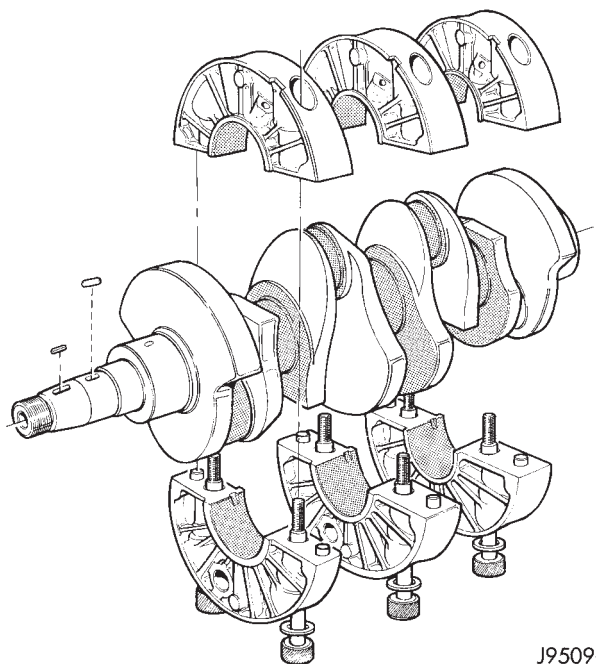

Fig. 57 Crankshaft and Carrier Bearing Assembly
(22) Separate the two halves of each carrier, remove from the crankshaft and temporarily re-assemble the carriers (Fig. 57). Withdraw the crankshaft through the rear of the crankcase.
(5) Thoroughly clean crankcase and oil passages, and blow dry with compressed air.
(6) Install new main bearing shells in each of the carrier halves. Assemble the carriers to the crankshaft journals, ensuring that the carriers are installed in their original locations and that the **piston jet notch is towards the front of the crankshaft**. Secure each carrier with the two bolts tightening evenly to 42 N·m (31 ft. lbs.). Check that the oil jet is in position (Fig. 57).